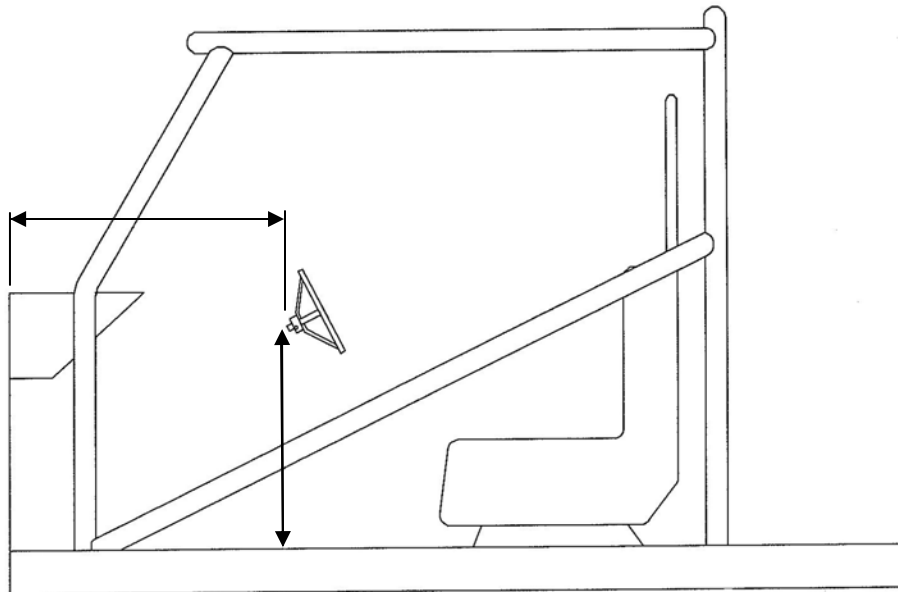

FIGURE 1
- b. Next, measure horizontally from the firewall to the center of the steering wheel flange. This will give the coordinates for the steering wheel position. (See FIGURE 1)